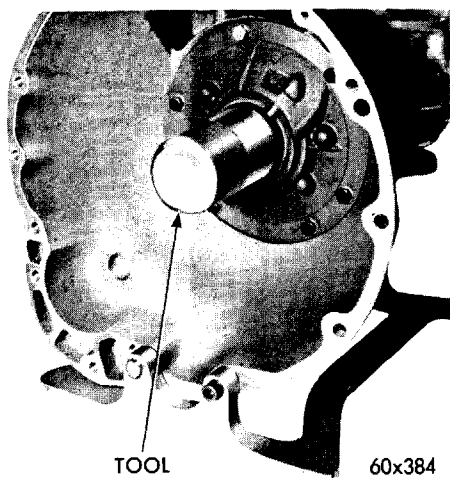

Fig. 42—Installing Front Pump Oil Seal
(2) To install new seal, place seal in opening of pump housing (lip side facing inward). Using Tool C-3757, drive seal into housing until tool bottoms (Fig. 42).